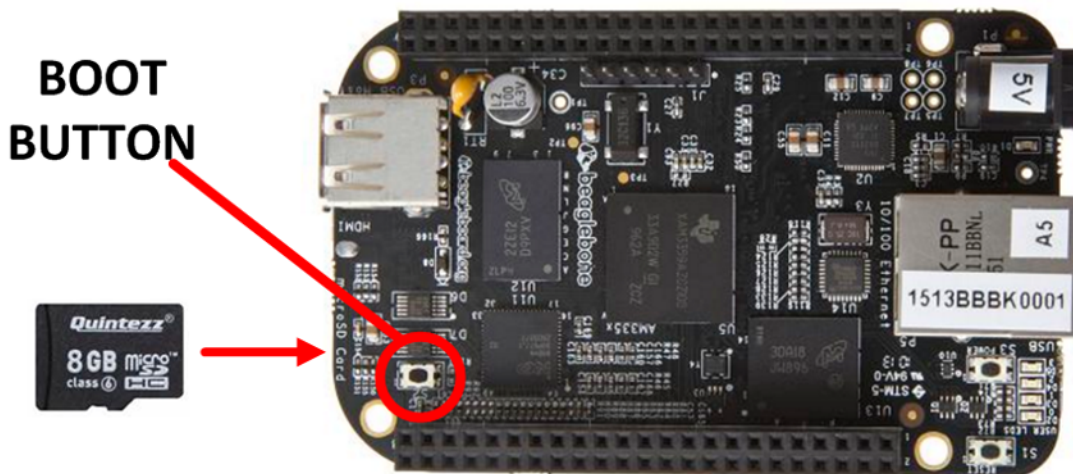

図 6. Boot BeagleBone Black From SD Card
2. Insert the micro SD card into the BeagleBone Black (see Figure 6).